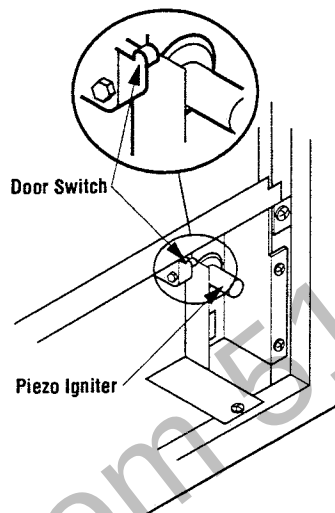
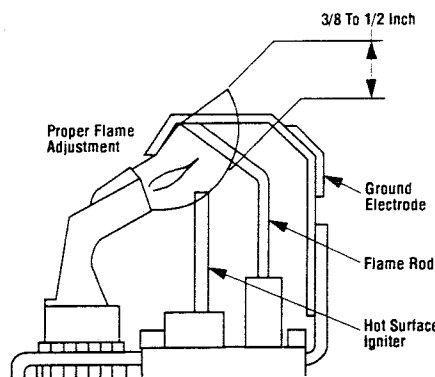

Figure 52
Figure 53
***Note:** To operate the appliance while leak testing, ensure that the door switch is depressed or the unit will not light (refer to Figure 52).
To light the burner; turn "ON" the remote wall switch (if on unit rocker switch is used toggle to "ON" also), manually depress and hold the door switch (Figure 52) and rotate the gas valve control knob counterclockwise to the "ON" position ("ON" will be at the bottom side of the valve).
To light the burner, turn "ON" the optional remote wall switch, manually depress and hold the door switch (Figure 52) and turn the gas control switch to the "ON" position. Ensure the igniter lights the pilot. The pilot flame should engulf the flame rod as shown in Figure 53.